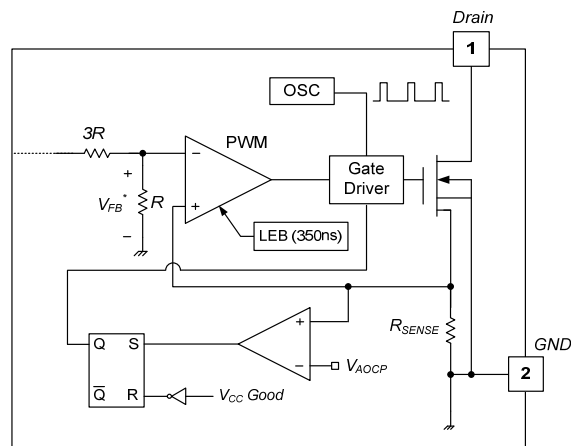

Figure 21. Abnormal Over-Current Protection
4.2 Abnormal Over-Current Protection (AOCP): When the secondary rectifier diodes or the transformer pins are shorted, a steep current with extremely high di/dt can flow through the SenseFET during the minimum turn-on time. Even though the FSL128MRT has overload protection, it is not enough to protect in that abnormal case; due to the severe current stress imposed on the SenseFET until OLP is triggered. The internal AOCP circuit is shown in Figure 21. When the gate turn-on signal is applied to the power SenseFET, the AOCP block is enabled and monitors the current through the sensing resistor. The voltage across the resistor is compared with a preset AOCP level. If the sensing resistor voltage is greater than the AOCP level, the set signal is applied to the S-R latch, resulting in the shutdown of the SMPS.